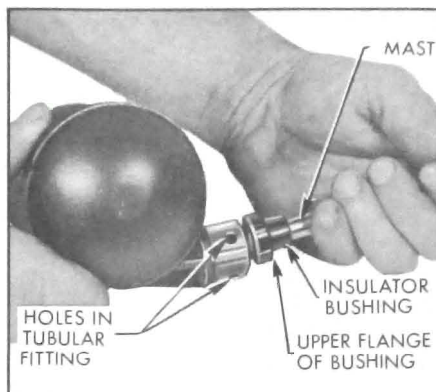

Figure 11-13—Positioning of Insulator Bushing
2. Push .400" tube section and insulator bushing into tubular fitting. Make sure that the upper edge of insulator bushing flange is below center of the 3 holes in the tubular fitting on the drive assembly. See Figure 11-13.